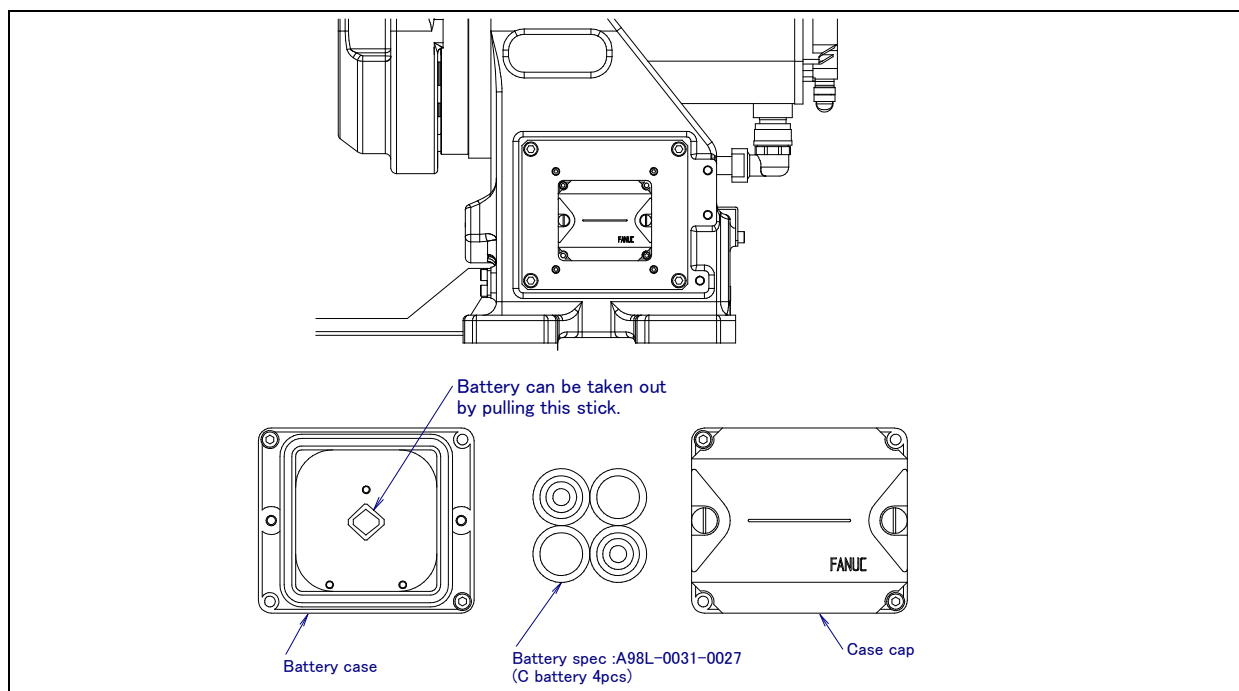

Fig. 8.3.1 Replacing the battery
- 2 Remove the battery case cap. (Fig. 8.3.1) If it cannot be removed, tap it on its side with a plastic hammer to loosen the cap before you remove it.